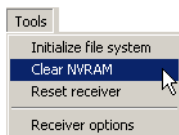

Figure 4-11. Clear NVRAM with PC-CDU
2. Click **Tools ▶ Clear NVRAM** (Figure 4-11). The REC LED flashes green and red; the STAT LED flashes red.